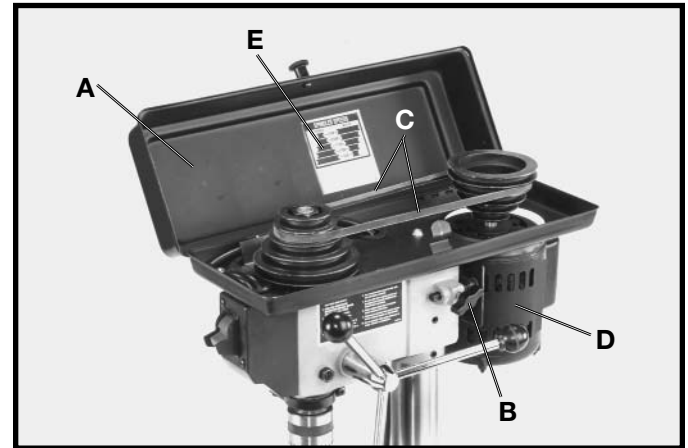

Fig. 22
NOTE: A BELT POSITIONING SPEED CHART (E) FIG. 22, IS LOCATED ON THE INSIDE TOP COVER OF THE DRILL PRESS.
2. Lift up the belt and pulley guard (A) Fig. 22.
3. Release belt tension by loosening tension lock knob (B) Fig. 22, and pivoting the motor (D) toward the front of the drill press.
4. While holding the motor toward the front of the drill press, position the belt (C) on the desired steps of the motor and spindle pulleys, as shown in Fig. 22.
5. After the belt is positioned on the desired steps of the motor and spindle pulleys, pivot motor (D) Fig. 22, away from the drill press head until the belt is properly tensioned and tighten tension lock knob (B). The belt should be just tight enough to prevent slipping. Excessive tension will reduce the life of the belt, pulleys and bearings. Correct tension is obtained when the belt (C) can be flexed about 1" out of line midway between the pulleys using light finger pressure.